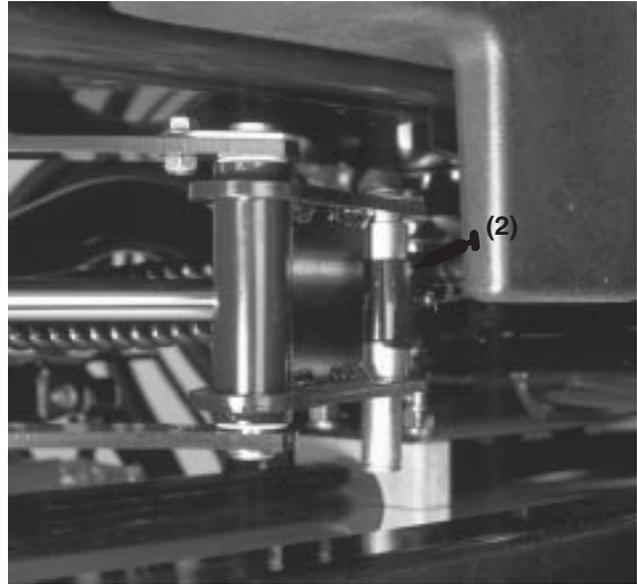
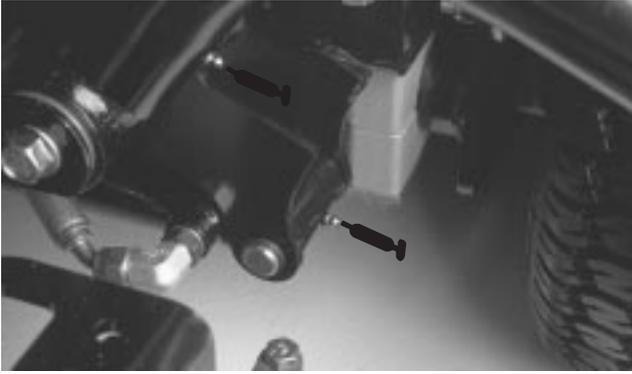
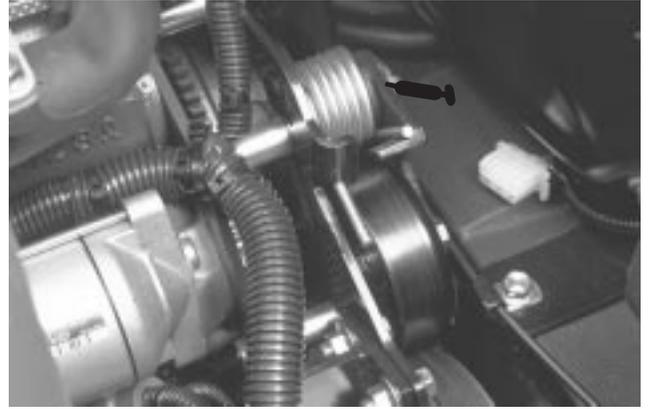

Figure 29
Figure 32
Figure 36
The traction unit bearings and bushings that must be lubricated are: Rear cutting unit pivot (Fig. 27), Front cutting unit pivot (Fig. 28), SideWinder cylinder ends (2) (Model 03201 only) (Fig. 29), Steering pivot (Fig. 30), Rear lift arm pivot and lift cylinder (2) (Fig. 31), Left front lift arm pivot and lift cylinder (2) (Fig. 32), Right front lift arm pivot and lift cylinder (2) (Fig. 33), Neutral adjust mechanism (Fig. 34), Mow/Transport slide (Fig. 35), Belt tension pivot (Fig. 36) Steering cylinder (Fig. 37).